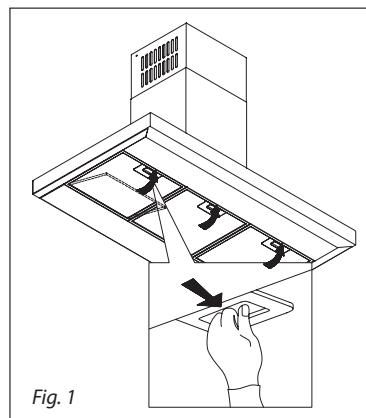

Fig. 1
- Remove the metal filters as shown in Fig. 1.